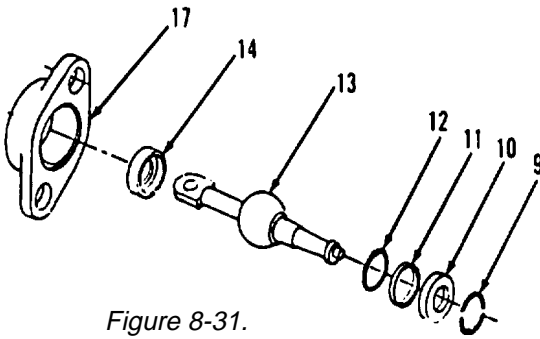
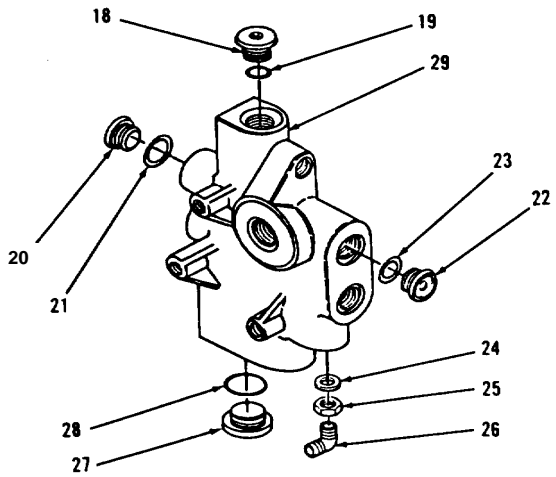

Figure 8-31.
Figure 8-21.
- 14. Install new preformed packing (28) and plug (27) in body (29, Figure 8-21).
- 15. Install elbow (26), washer (25) and nut (24).
- 16. Install new preformed packing (23) and plug (22).
- 17. Install new preformed packing (21) and plug (20).
- 18. Install new preformed packing (19) and plug (18).
- 19. Install new preformed packing (14), ring (13) and bearings (16 and 12) on lever (15, Figure 8-31).
- 20. Install housing (17).
- 21. Install new preformed packing (11).